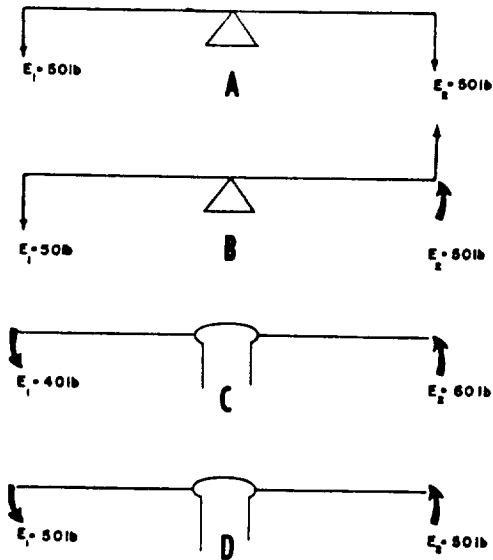

Figure 1T
- 1-62. Which of the parts of figure 1T represents the wheel and axle arrangement known as a couple?